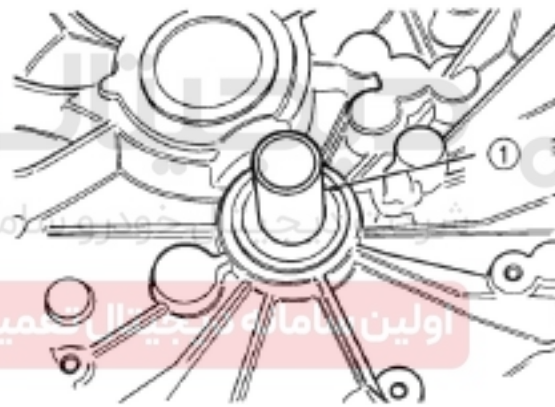

Figure 3-121 Assembly of input bearing
(3) Screw the input bearing into the whole completely with sleeve gasket tool 4898 and press (Figure 3-121).